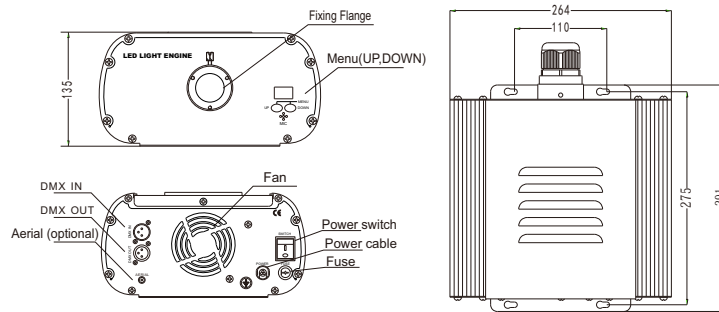

Fig. 1
2. Installation dimension of light engine(see Fig.1):